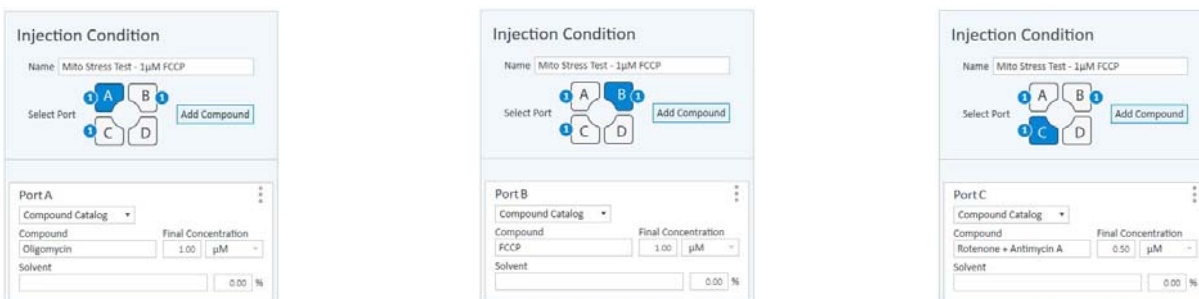

Figure 6 Additional injection ports
- 3 Next, specify the contents of each injection starting with Port A. Click **Add Compound**, and type in a compound name (for example oligomycin), or use the **Compound Catalog** drop-down menu to select a compound from the catalog. (See Figure 6 on page 16.)